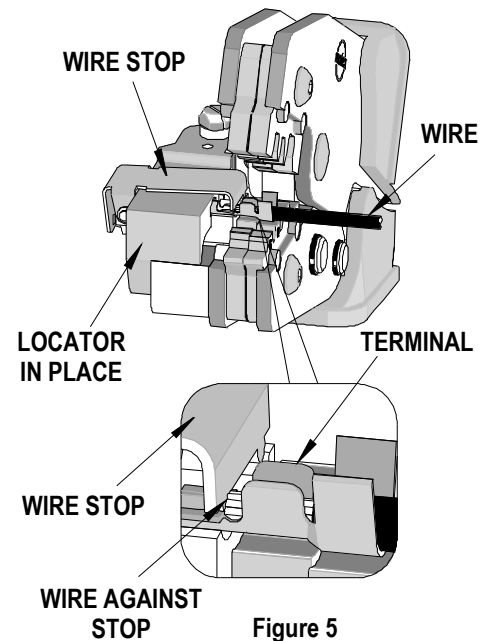

Figure 5
4. Return the locator to its original position. Insert the proper wire over the terminal. Some large O.D. wires may need to be placed into the terminal before closing the tool. Gently touch the wire stop with the end of the wire. See Figure 5.